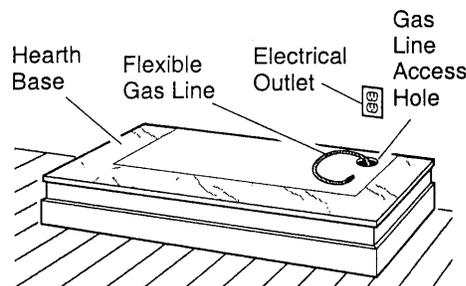

Figure 21 - Placing Hearth Base Accessory Against Wall
- When installing blower, install a properly grounded, 120 volt three-prong electrical outlet at fireplace location if an outlet is not there. If possible, locate outlet so cabinet mantel will cover it when installed (see Figure 21).
- Place hearth base accessory against wall at installation location. Cut an access hole in hearth top to run flexible gas line to fireplace (see Figure 21). Make sure to locate access hole so cabinet mantel will cover it when installed.